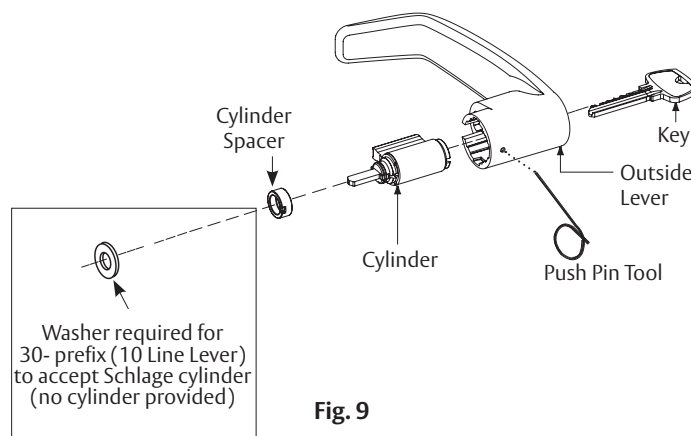

Fig. 9
b. Change cylinder if necessary. (Fig. 9)